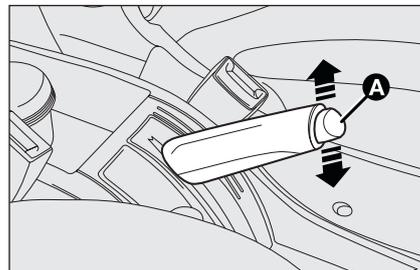

fig. 1
- ❑ slightly lift the handbrake and press release button **A**-fig. 1;